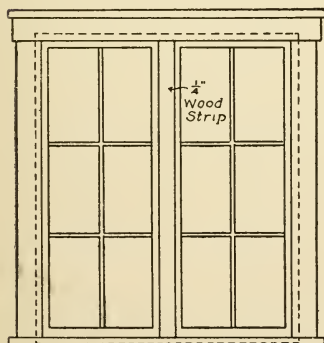

FIG 88 CASEMENT WINDOWS
**The Casement Windows** (Fig. 88) are made similarly, with the addition of a quarter of an inch strip of a cigar-box glued up the centre of the glass, to give the appearance of double windows hinged to swing in.